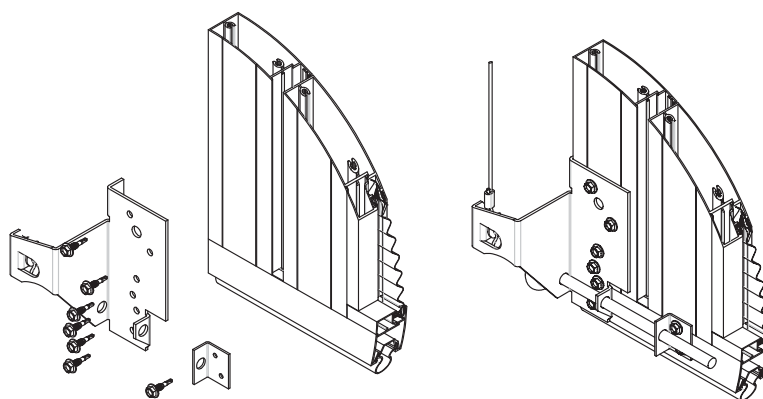

Fig: 5.2.1
- Secure the bottom hanger and bottom panel bracket to the bottom panel with tek screws as shown in Fig 5.2.1.